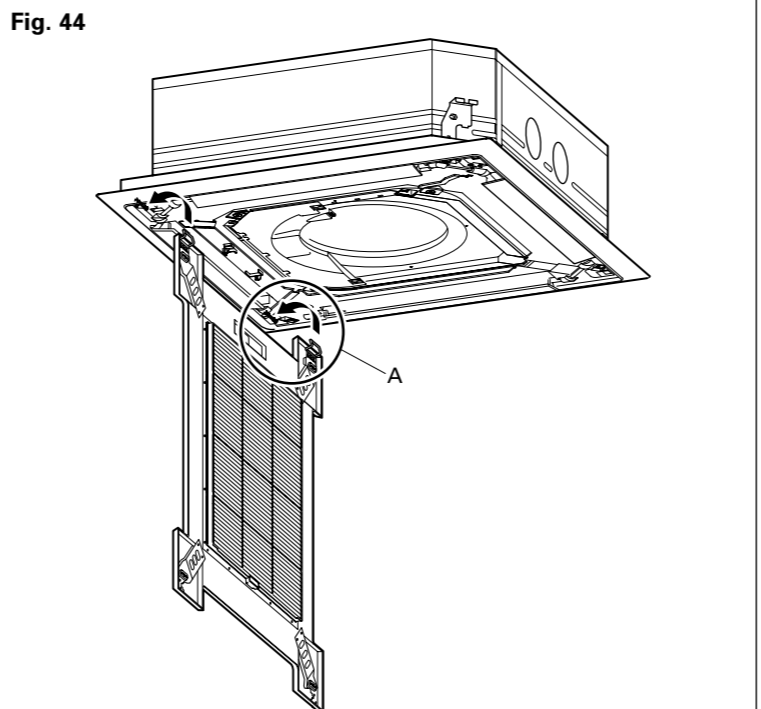

Fig. 44
- Mount the grille hinge wire to the hook shaft as shown in Fig. 44.